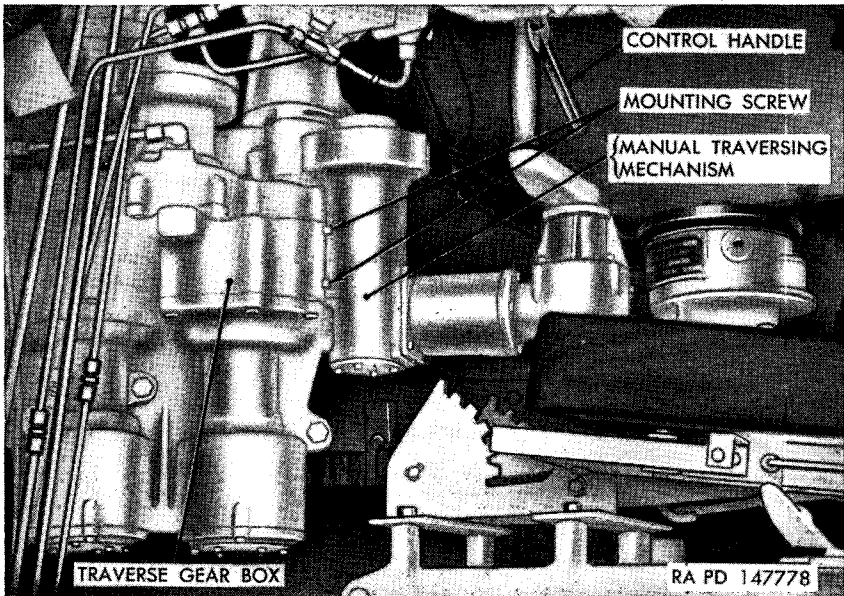

Figure 297. Turret traversing mechanism.
- (1) *General.* The turret contains both a power and a manual traversing system. In either case, traversing is accomplished by the turret traversing mechanism (fig. 297) which contains a set of gears within a gear box. These gears mesh with the turret ring gears to traverse the turret. A turret traversing lock (fig. 31) serves to lock the turret securely in any position.
- (3) *Manual traversing system* (fig. 297). In the manual traversing system, gunner's manual traversing control handle operates the gear train directly to traverse the turret.
a. **REMOVAL** (fig. 297). Remove four mounting screws and lock washers securing manual traversing mechanism to side of traverse gear box and seven screws and lock washers securing mechanism to top of gear box. Carefully remove mechanism from gear box, being careful not to lose mounting shims.
b. **INSTALLATION** (fig. 297). Position manual traversing mechanism to traverse gear box. Make sure shims are in place and secure mechanism with four mounting screws and lock washers to side of gear box and seven screws and lock washers to top of gear box.